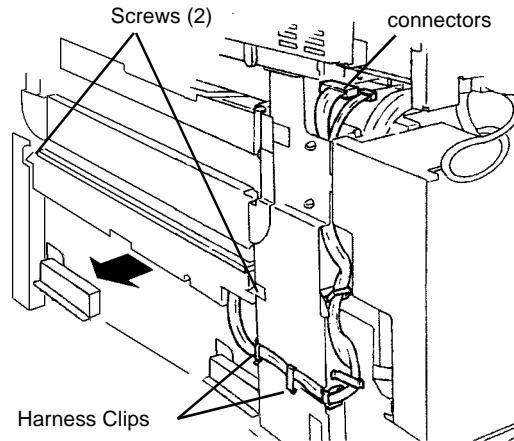

Figure 1 Removing ROS
3. Remove ROS (Figure 1).
- c. Disconnect connectors (2).
- d. Remove Screws (2).